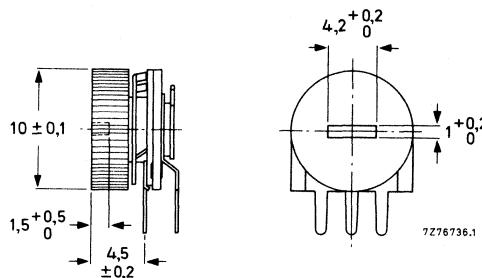

Fig.2 Potentiometer for vertical mounting with knob 2322 410 450 ..
- 4 = with knob (Fig. 2; only for 2322 410 .50..)
Note: catalogue number of knob (Fig. 2): 4322 047 00190 (only for 2322 410 .50..);